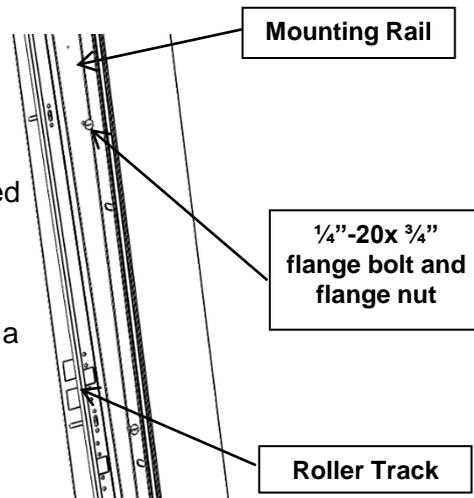

Figure 7 Attach lower roller track to mounting rail
3. Attach the vertical metal roller track to mounting rail using $1/4$ "-20x $3/4$ " sidewalk bolts and $1/4$ "-20 flange nuts in the provided slots **(Figure 7)**